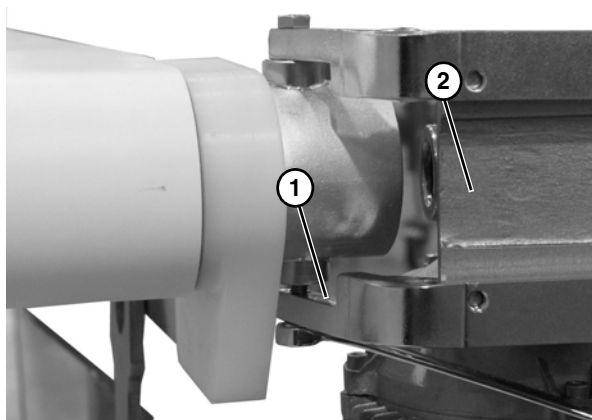

Figure 11
3. Attach the bent bars (**Figure 11, item 1**) to the motor mounting bracket (**Figure 11, item 2**).